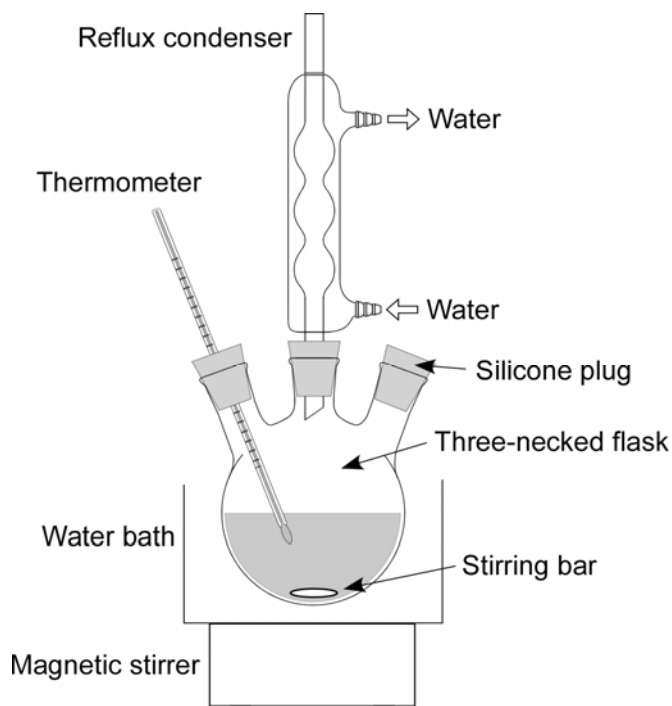

Fig. 36.1 Experimental setup.
- (1) Assemble the experimental setup as shown in Fig. 36.1. The chemicals will be charged through the unequipped neck.
- (2) Charge water (100 mL) and Amberlyst-15 (1.0 g) into the three-necked flask. Then heat and stir the solution.
- (3) When the solution reaches a constant temperature of 60 °C, add ethyl acetate (5 mL) to